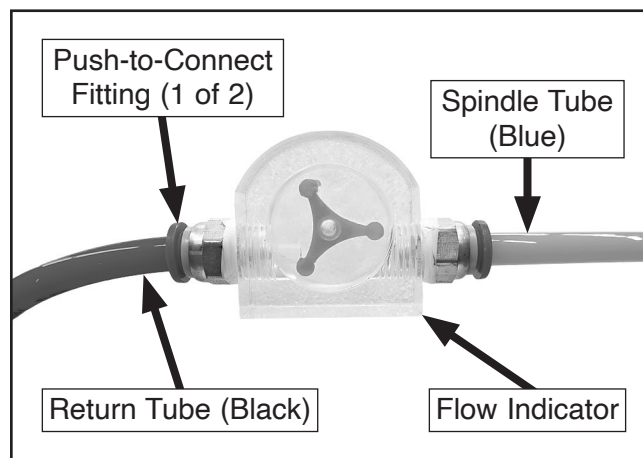

Figure 5. Location of flow indicator push-to-connect fitting.
4. Remove black return tube from flow indicator (see **Figure 5**) by pushing in on push-to-connect fitting while also pulling on return tube.